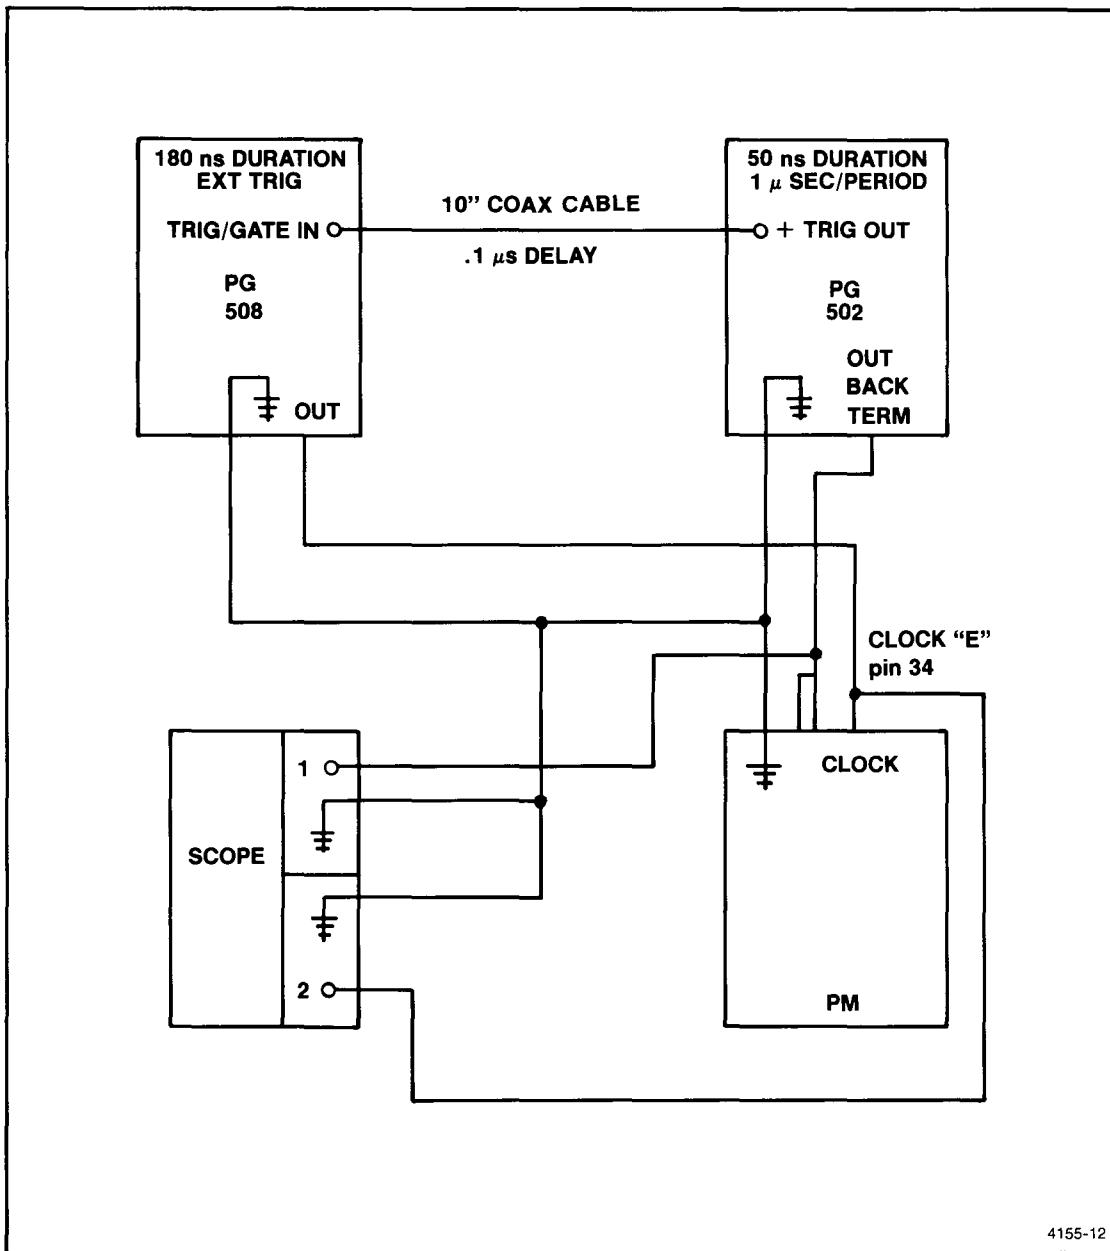

Figure 5-3. Setup and hold time test setup.
5. Connect the coaxial cable from the + TRIGGER OUT of the PG 502 to the TRIGGER/GATE IN of the PG 508. The PG 502 will trigger the PG 508. Refer to Figure 5-3.
2. The PG 502 will trigger the PG 508. Connect the coaxial cable from the + TRIGGER OUT of the PG 502 to the TRIGGER/GATE IN of the PG 508. Refer to Figure 5-3.
11. Switch the oscilloscope to channel 2. Using the channel 2 input, test the PG 508 output pulse voltage levels for +0.6 V to +2.0 V. After adjusting the PG 508 output for the desired output, connect the PG 508 outputs across ground (pin 1) and pin 34 (E) of the PM 111 40-pin microprocessor plug.